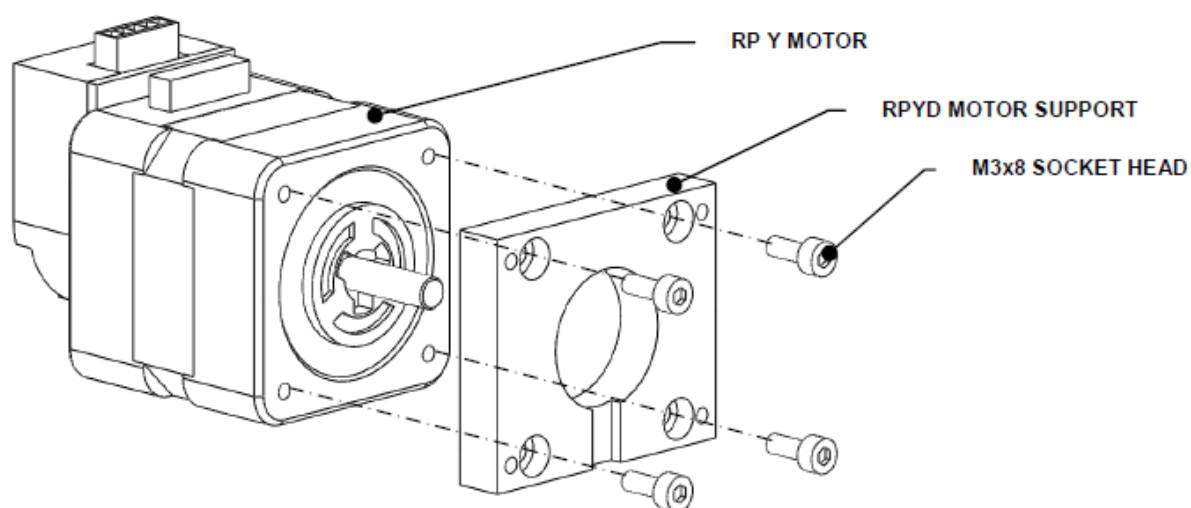

Figure P-15: Fitting the Y Drive Motor Support
8. Fit a Y Drive Motor Support to the Y Motor with four M3x8 Socket Cap Head Screws and Loctite 222 (Figure P-15). Note the orientation of the RPYD Motor Support by the position of the notch.